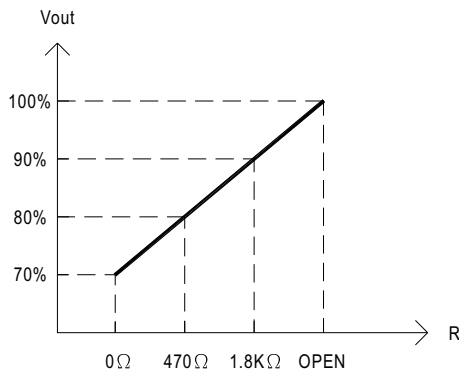

Fig. 3.1 External Resistor (Typical)
- (1) Adjustment of output voltage is possible between 70~100% (Typ.) of the rated output which is shown in Fig. 3.1